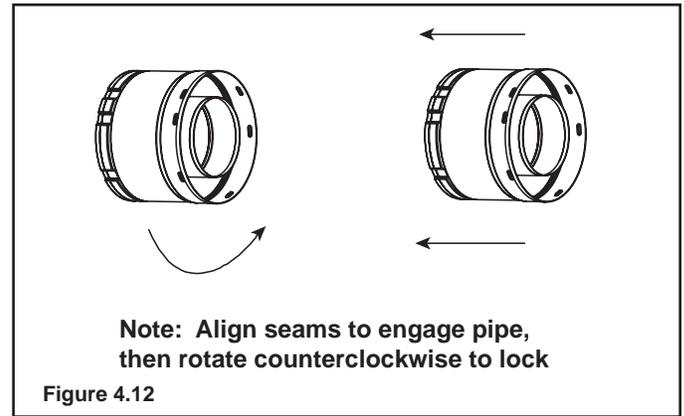

Figure 4.12
- Align the seam of the pipe and seam of collar to allow engagement. Rotate the flue component to lock into place. Use this procedure for all vent components. See Figure 4.12.